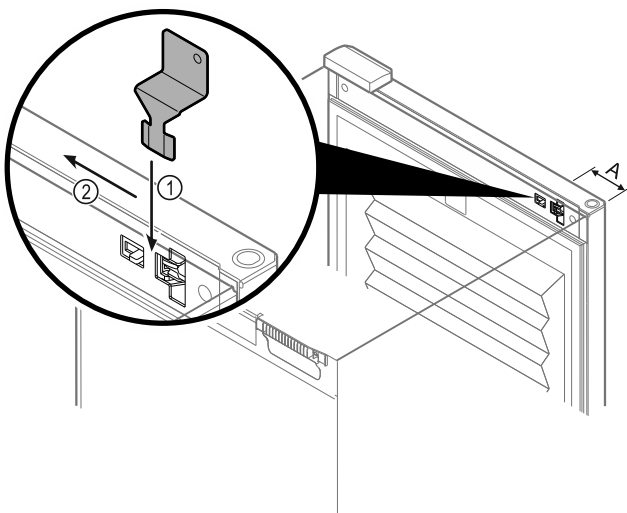

Fig. 148
- ▶ Insert the emergency release key in the specified position Fig. 148 (A) ≈ 100 mm.
- ▶ Insert the emergency release key Fig. 148 (1) between the door and the body of the appliance from above to the end stop.
- ▶ Pull the emergency release key towards the hinge. Fig. 148 (2)